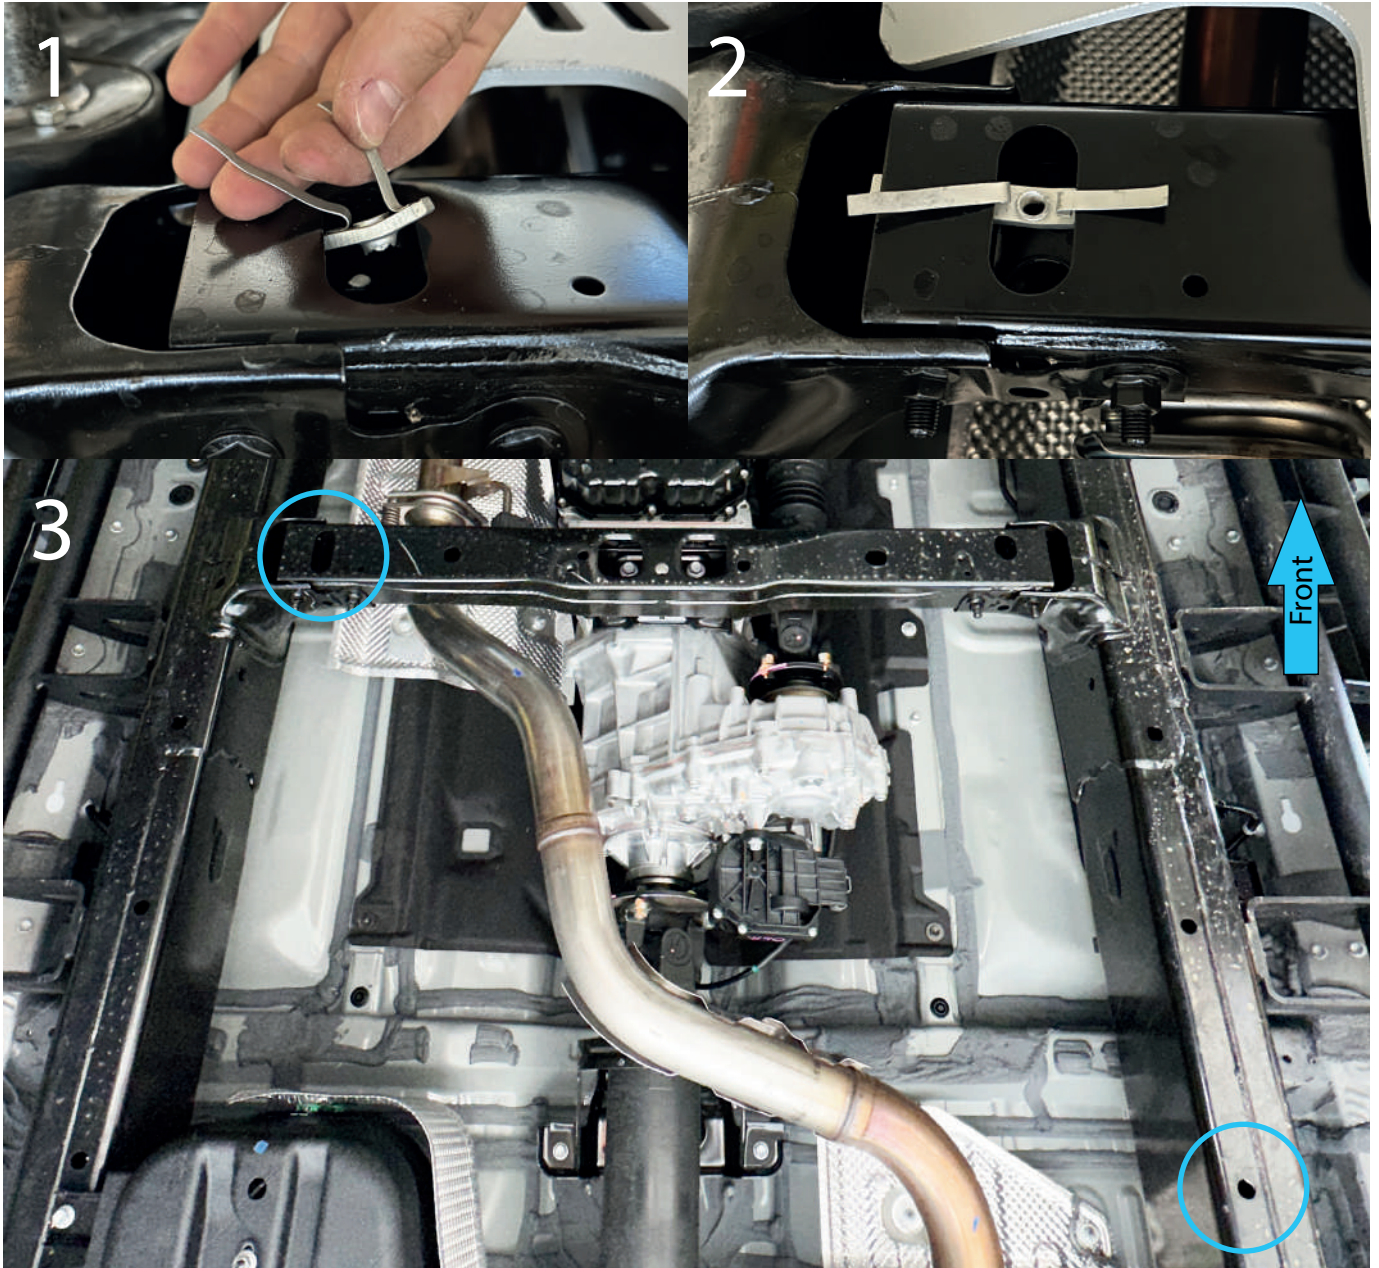

Fig. 1
1. Install M8x65 insert nut (item B) as shown in Fig.1.